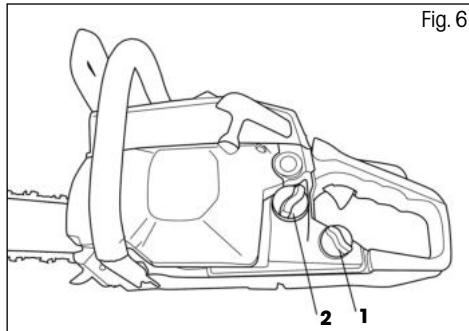

Fig. 6
- ❖ Screw off the oil tank cap (fig. 6, point 1).
- ✿ Screw off the fuel tank cap (Fig. 6, point 2) and pour in the fuel. Then screw the cap back on.